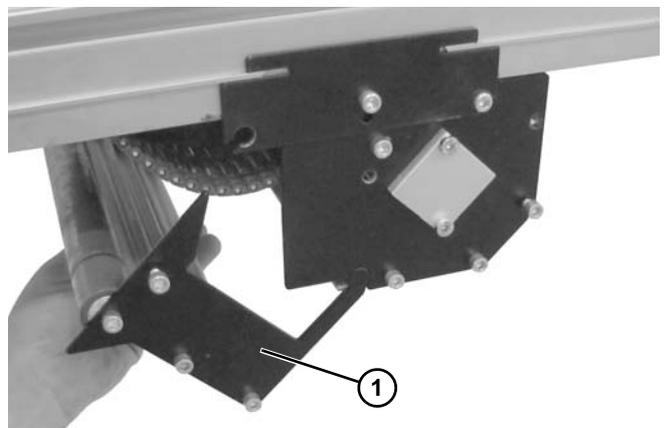

Figure 47
2. Baisser le support (**Figure 47, élément 1**).